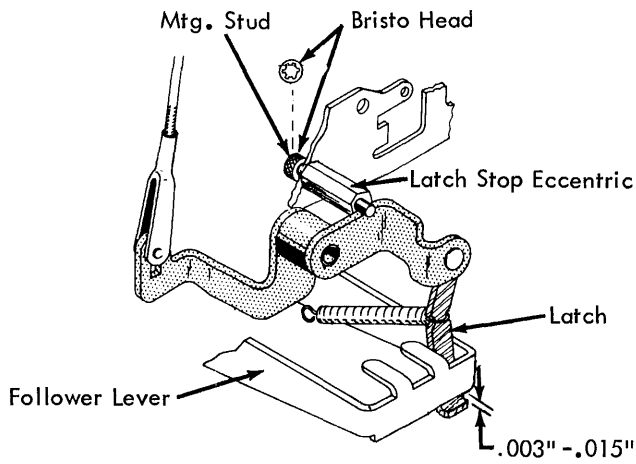
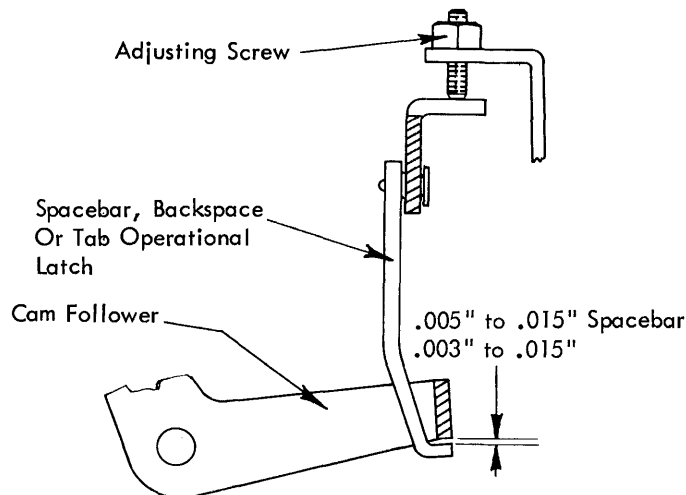
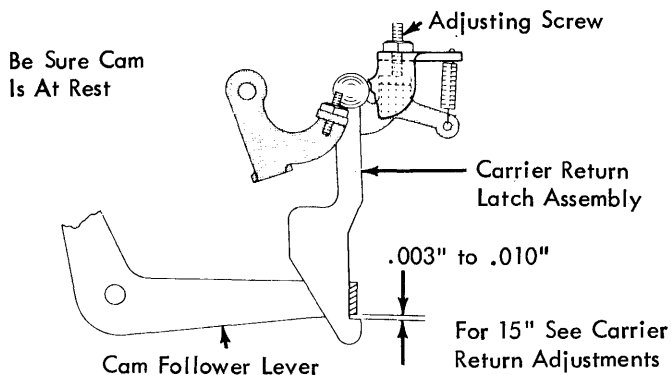

FIGURE 159A. Tab Latch Height
FIGURE 159B. Latch Height
FIGURE 160. Latch Height (11 Inch)
3. Operational Latch Height - The adjustable latch screws (eccentric stop on tab latch Fig. 159A) for the backspace, spacebar, and tab operational latches should be adjusted so that the latches will pass under the cam follower lever with a clearance of .003" to .015" (Fig. 159B). The carrier return operational latch adjustable stop should be adjusted so that the latch will pass under the cam follower with .003" to .010" clearance (Fig. 160).